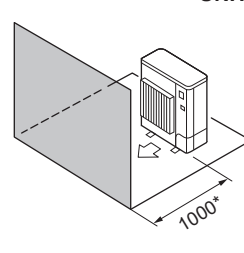

Fig. 2-10
(4) Solo ostacoli anteriori (Fig. 2-10)